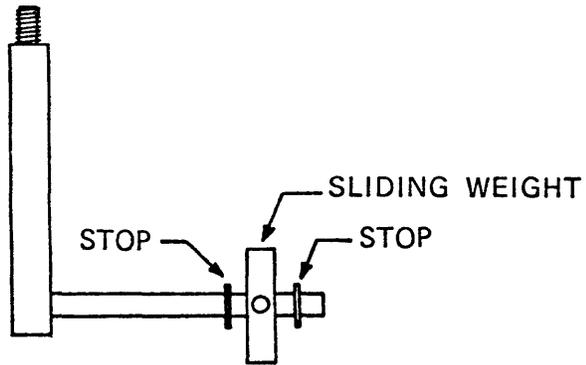
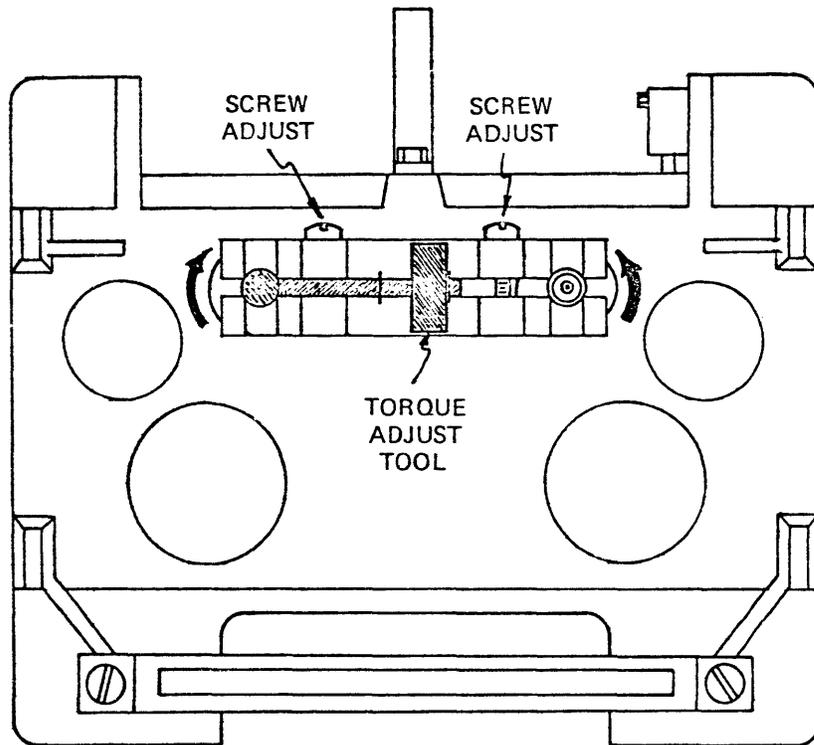

Figure 4-2. Drag Adjust Tool
Figure 4-3. Brake Adjustment
- b. Screw the torque adjust tool (figure 4-2) into the base of the spindle shaft. Position the weight against the outer stop of the tool (see figure 4-3).
- c. Rotate the lever to the horizontal position (see figure 4-3). Adjust the screw adjacent to the spindle being adjusted so that the lever will remain horizontal, but a slight tapping on the main casting with the finger or small screw driver will cause the weight to drop thru about 25 degrees of rotation. (The tapping simply overcomes the resting friction between the brake-shoe surface and the spindle shaft.) In this test, a drag greater than 0.45 inch-ounces is required to keep the weight horizontal, but the drag is less than 0.55 inch-ounces if the tapping allows the weight to drop thru 20 to 25 degrees of rotation. These limits are well within the minimum and maximum allowable drag torques.